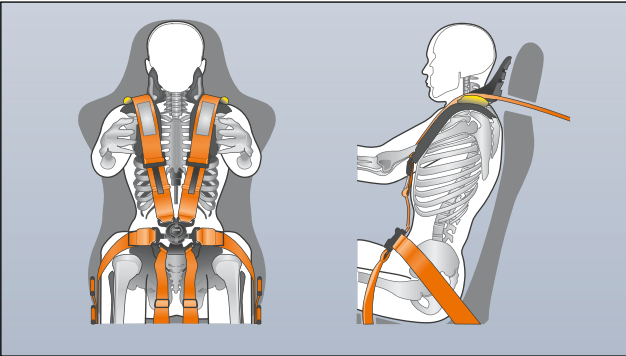

FIG.52 CORRECT SAFETY BELT POSITION
- The part of the safety belt running over your shoulder should always run over the middle of your shoulder and never over your neck or your arm, never under your arm or behind your back (> Fig.52).
- The lap belt portion of the safety belt must be positioned as low as possible across pelvis and never over the abdomen (> Fig.52).
- Always make sure the belt lies flat and snug on your body. Tighten the belt if necessary (> Fig.52).